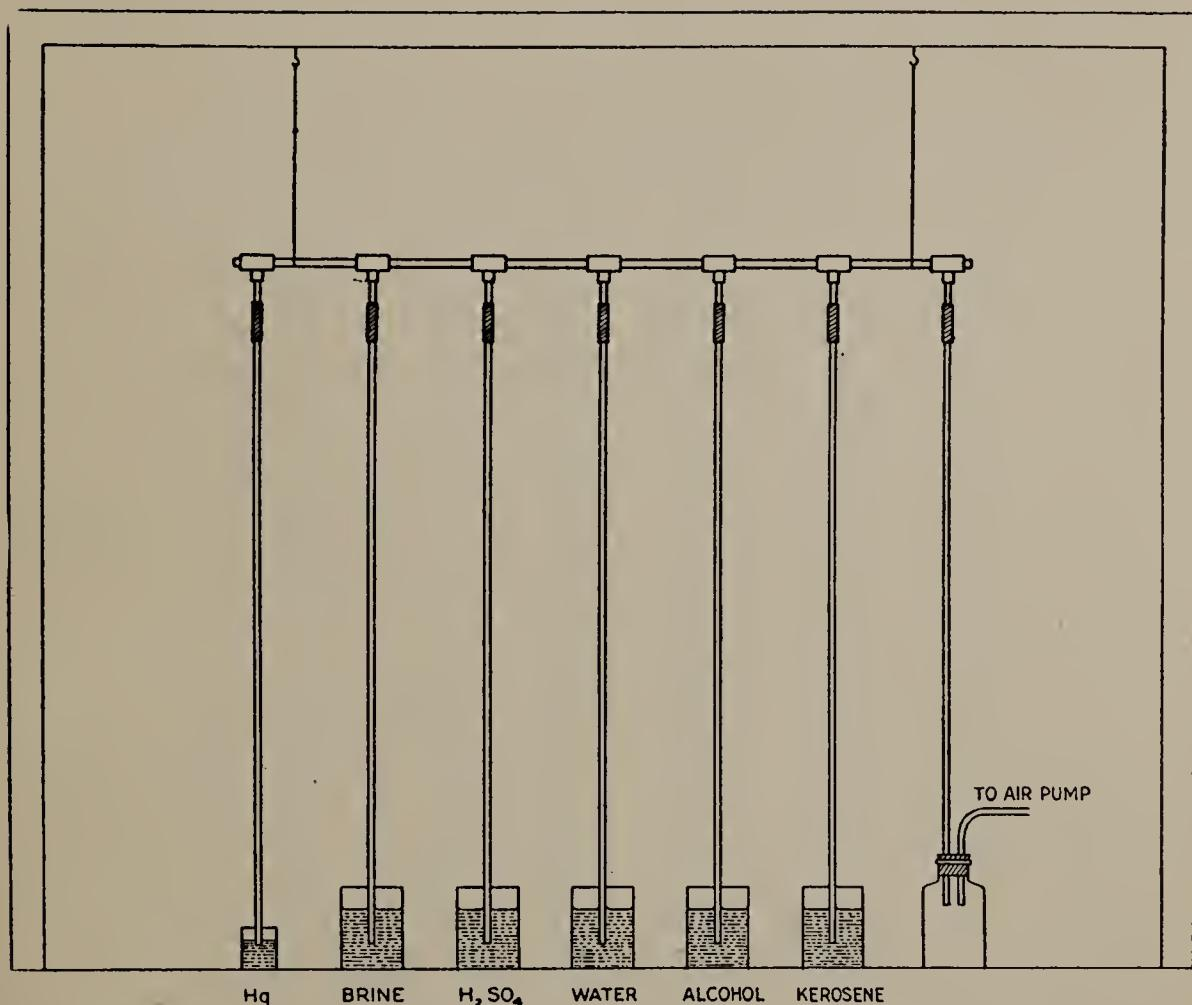

FIG. 11.
- (a) See that the tube connections are air-tight and the pinch-cock rightly placed (see Fig. 11). The tubes must extend far enough into the liquids so that their lower ends will not be uncovered as the liquids rise in the columns.